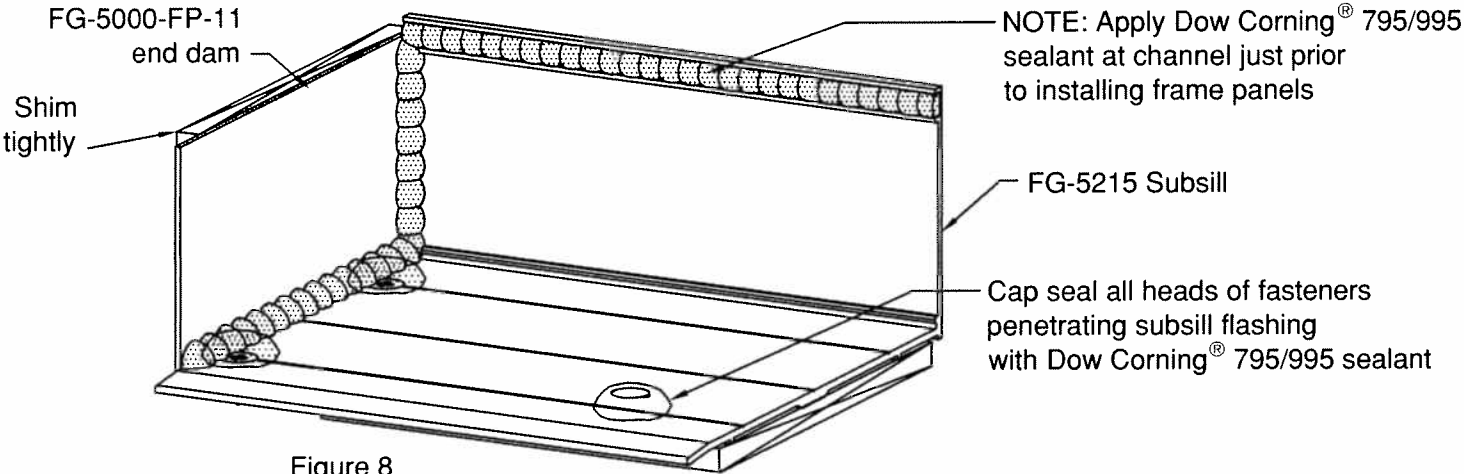

Figure 8
- 3.1.2 Wedge shims tightly between end dams and jamb substrate at each end prior to installing frame panels. These shims prevent the end dams from being dislodged while frame panels are being installed. Completely seal end dams as shown SEE FIGURE 8.